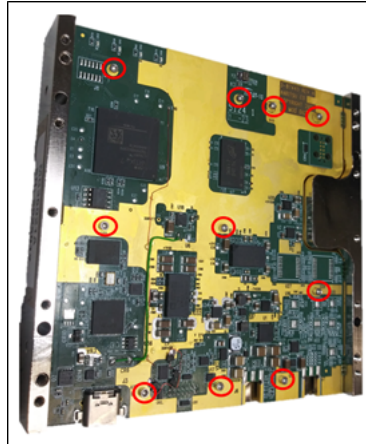

Figure 4-3. Digital Board Assembly with Mounting Screw Locations
1. Remove the MG36021A housing as described in Section 4-3 “Removing the MG36021A Outer Housing”. See Figure 4-3.